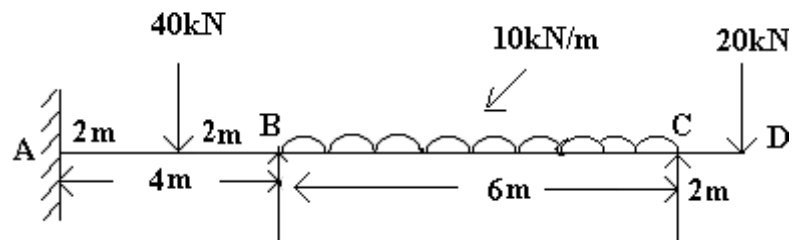

Figure 1:
5. Using slope deflection-method analyse the continuous beam loaded as shown in Figure 1. Sketch the B.M.D. [16]